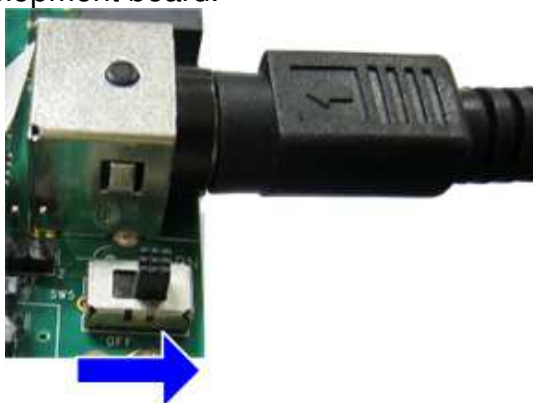

Figure 2-5 Power on FPGA board
- 6) Connect FPGA power adapter to FPGA board, as shown in Figure 2-5.